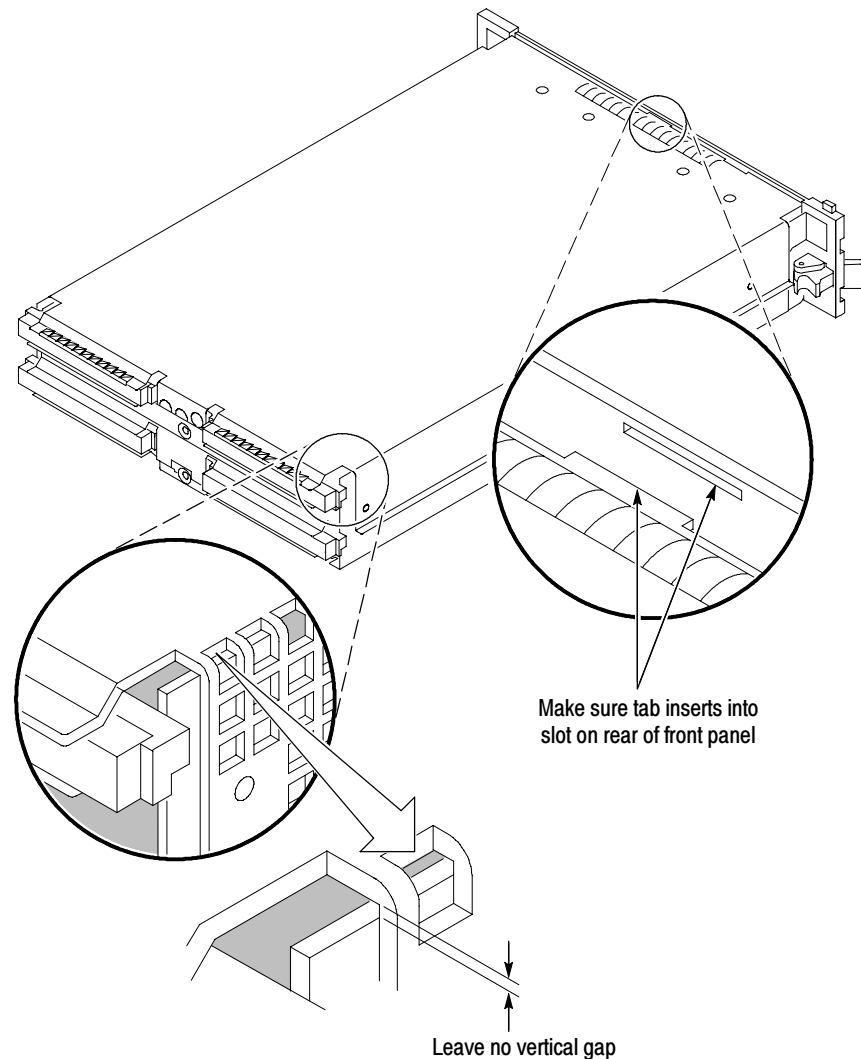

Figure 29: Seating the cover on the chassis
6. Push forward on the cover so that you insert the tab on the front edge of the cover into the rear of the front subpanel. Make sure that the cover is fully seated and there are no gaps between the front and rear chassis flanges; refer to Figure 29 on page 39.